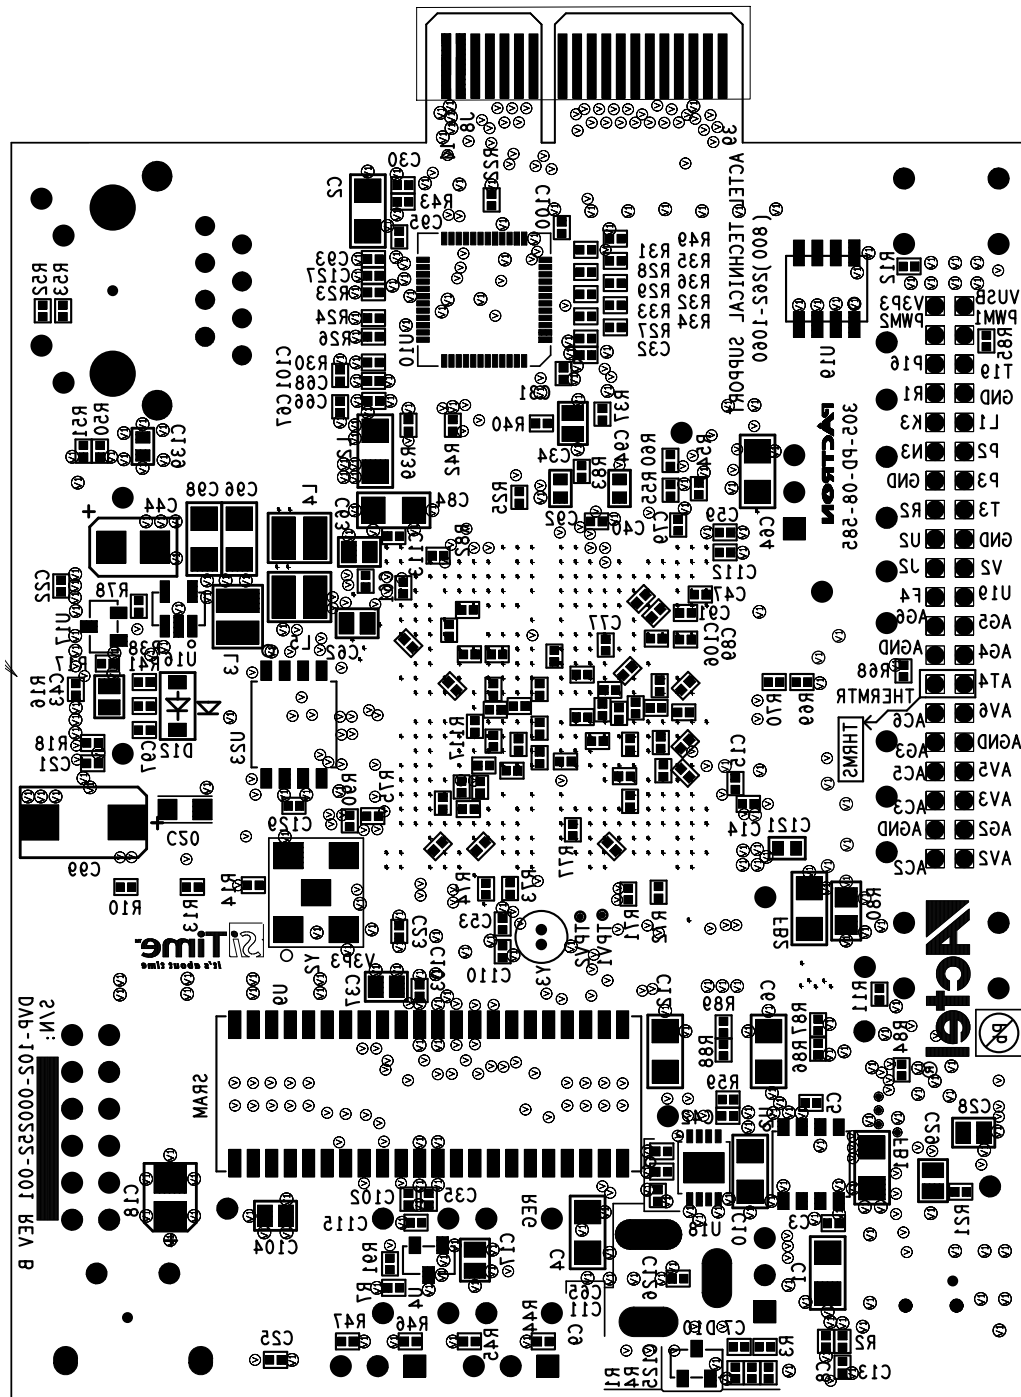

Figure 1-3 • Bottom Silkscreen
8. Bottom signal (Figure 1-3 on page 1-10)